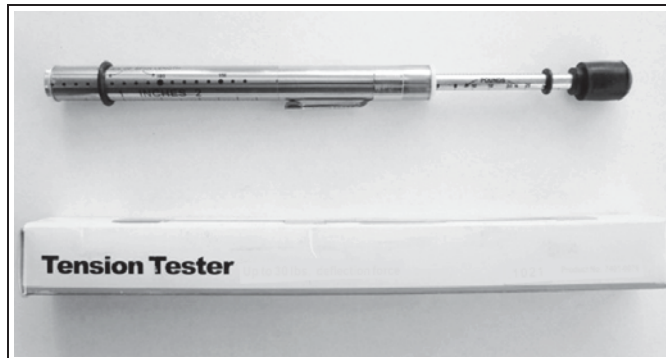

Figure 23
*NOTE: Use a tension testing tool such as shown below in Figure 23.*